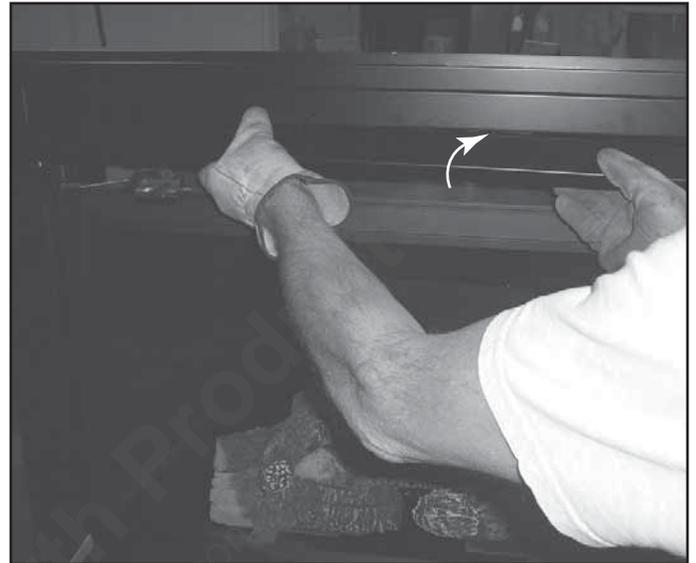

Figure 15.16 Installing Hood
- Tighten the four screws. See Figure 15.16.